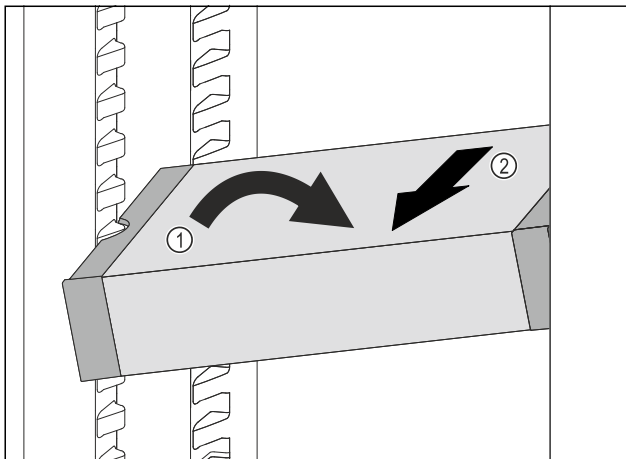

Fig. 97
- ▶ Set VarioSafe in refrigerator compartment at an angle. Fig. 97 (1)
- ▶ Take VarioSafe out to the front. Fig. 97 (2)